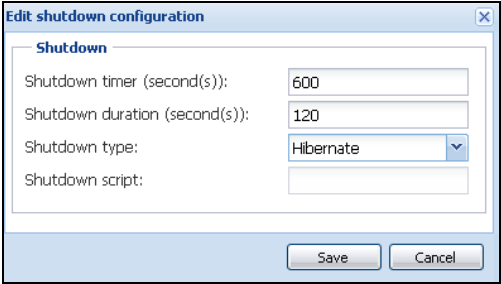

Figure 64. Edit Shutdown Configuration Dialog Box
- The IPP default configuration is available from **Settings > Shutdown > Edit Shutdown Configuration** (see Figure 64).